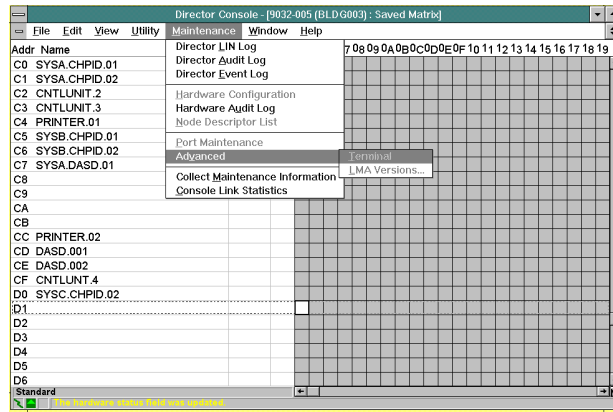

Figure 3-29. Selecting the Terminal Window
1. Access the *Terminal* window on the Console by selecting *Terminal* from the *Advanced* option of the *Maintenance* menu (Figure 3-29). Ensure you are using the correct Director's active matrix window.